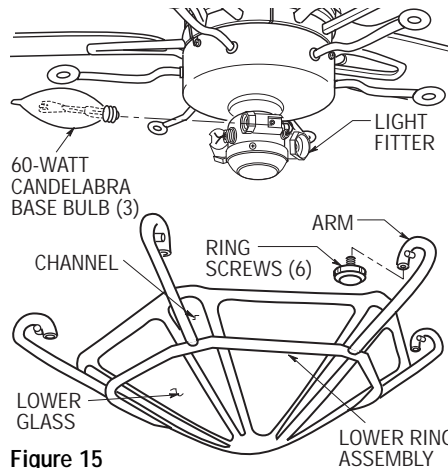

Figure 15
- 7. Screw three 60-watt (maximum) candelabra base flame bulbs into the light fitter sockets (Figure 15).
- 8. Unscrew the six ring screws from the lower ring assembly (Figure 15). Position the lower glass in the lower ring assembly so that the six channels in the glass align with the six arms of the lower ring assembly.